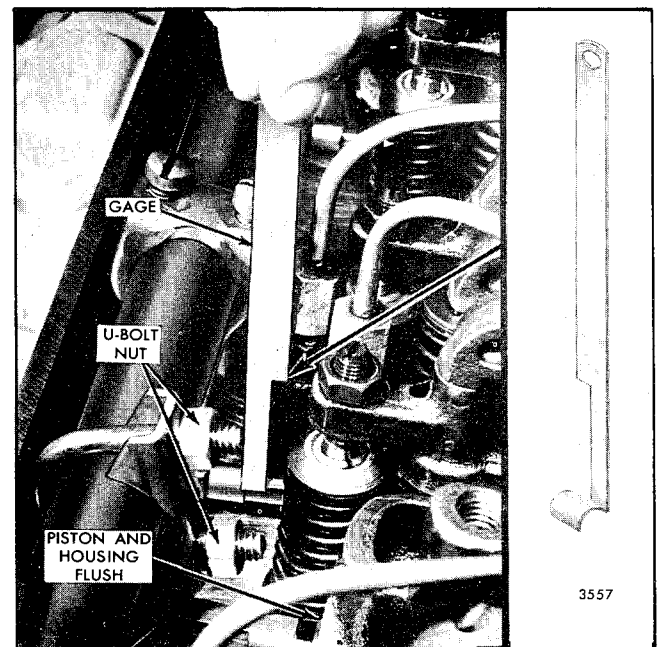

Fig. 4 - Adjusting Throttle Delay Cylinder
1. Refer to Fig. 4 and insert gage J 23190 (.454" setting) between the injector body and the shoulder on